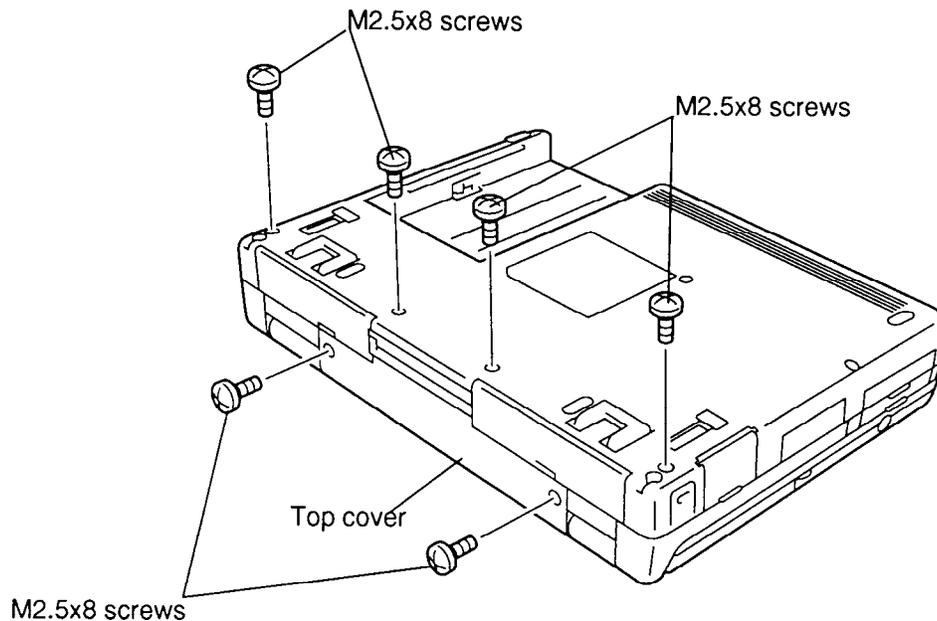

Figure 4-10 Removing top cover screws
To remove the T2400CS/T2400CT's top cover, follow the steps below and refer to figures 4-10 and 4-11.
3. Turn the computer over and remove four M2.5x8 silver screws on the bottom and two M2.5x8 silver screws, securing the top cover, at the back of the T2400CS/T2400CT (figure 4-10).
To install the T2400CS/T2400CT's top cover follow the steps below and refer to figures 4-10 and 4-11.
5. Secure the two M2.5x8 silver screws at the back of the computer and four M2.5x8 silver screws on the bottom at the computer (figure 4-10).